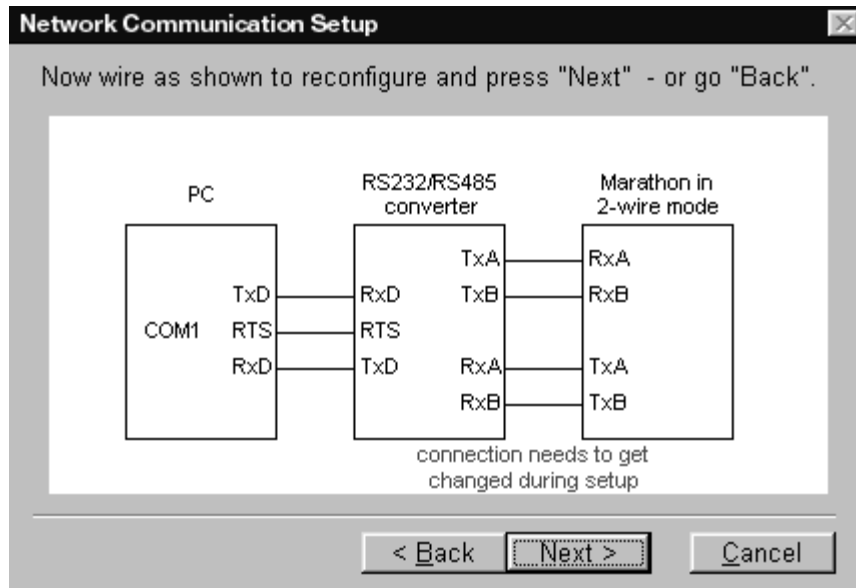

Figure 3-13: 2-Wire Setup Wiring Diagram Screen
- Depending on the selection you make, a screen showing how the wiring should be displays (similar to Figure 3-13). Follow the directions and click the Next button.